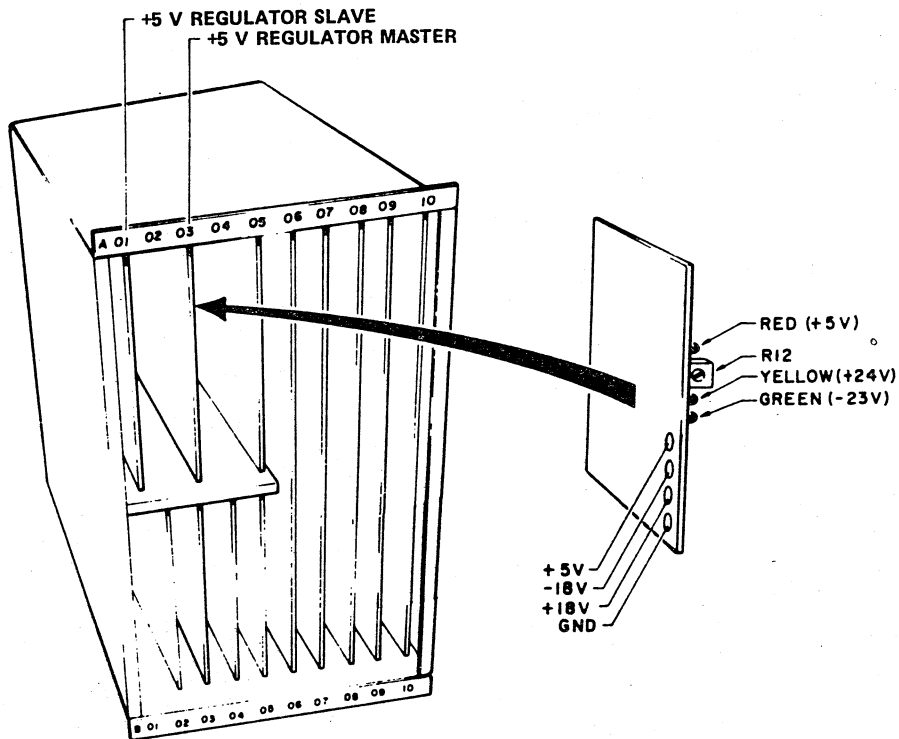

Figure 6-35. +5 V dc Regulator Board Test Points
6. Apply the voltmeter black (-) lead to ground (GND) test point on the A03 board (figure 6-35).
7. Apply the red (+) lead to the +5 V dc test point (figure 6-35).
8. The meter should indicate +5 V dc. If the voltage is other than +5, adjust to +5 by turning the adjustment screw of potentiometer R12 (figure 6-35). If this cannot be adjusted, replace the A03 card.
10. Apply the red (+) lead to the +18 V dc test point and the black (-) lead to GND (figure 6-35).